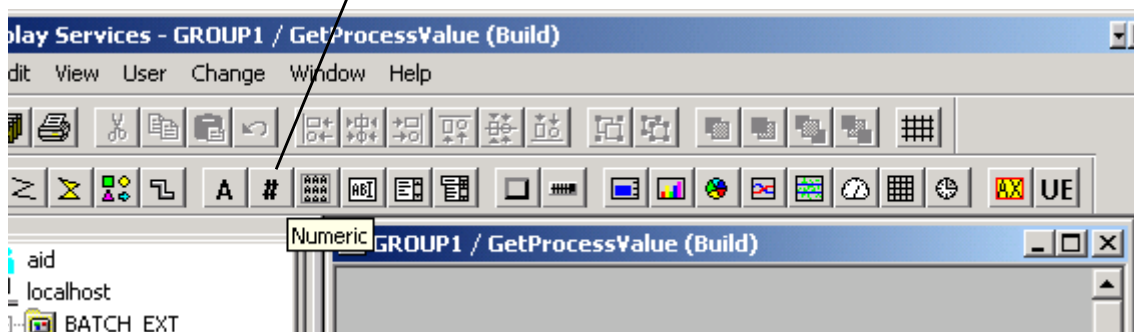

Figure 14. Numeric Button
1. Click on the Numeric button, Figure 14.